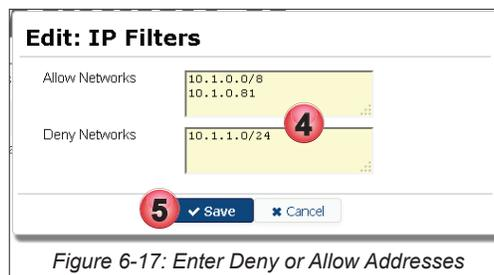

Figure 6-17: Enter Deny or Allow Addresses
4. In the window that opens, enter the IPv4 addresses or networks in CIDR notation that will be allowed or denied access to this machine GUI in the corresponding dialog box, Figure 6-17.